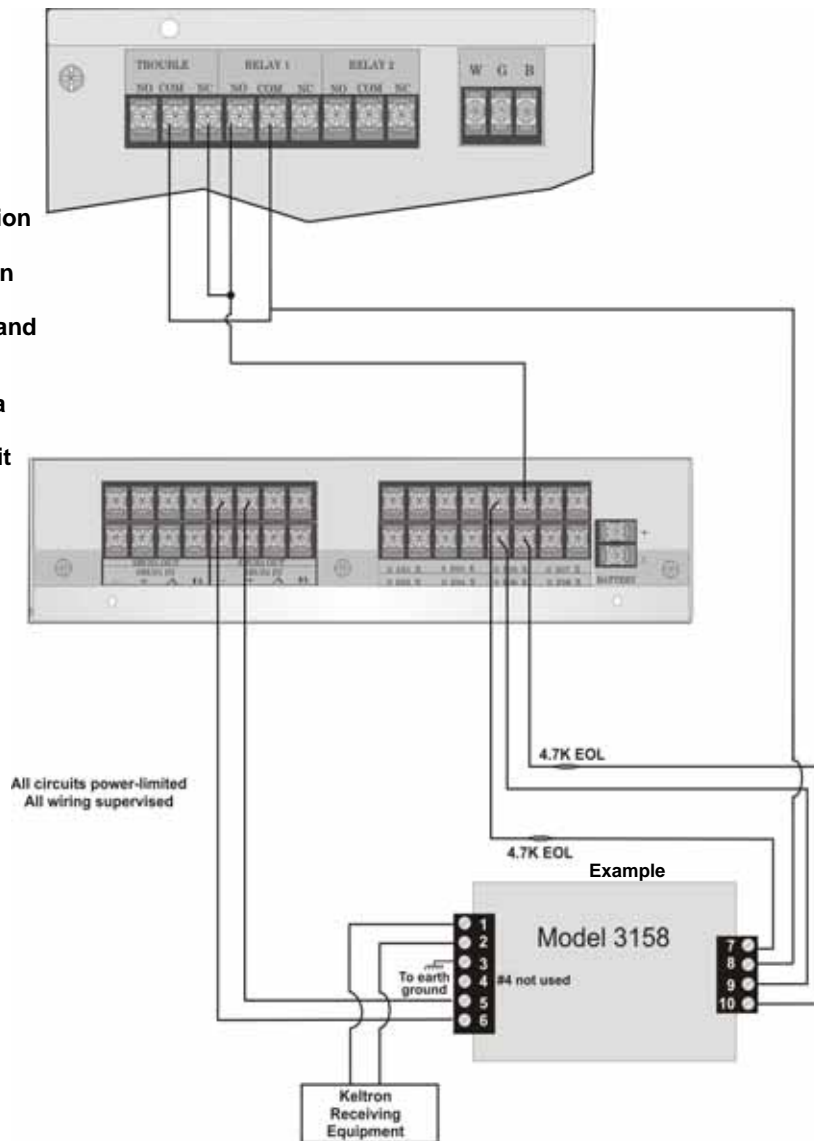

Figure 4-41 Keltron 3158 Connection to Control Panel
1. Wire the 3158 to the control panel as shown in the connection list and Figure 4-41.